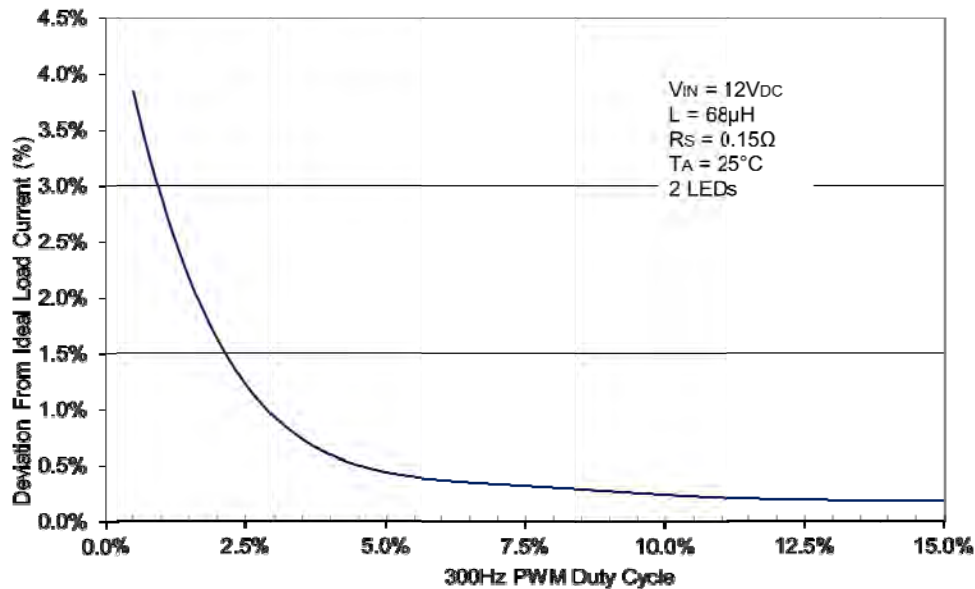

Fig. 32 Low Duty Cycle PWM Dimming at 300Hz
- Refer to figure 32 for the device derating curve.